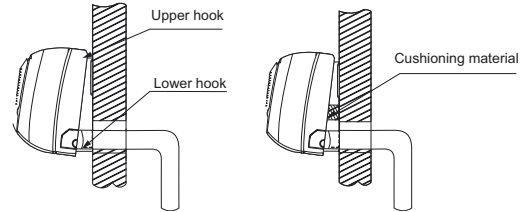

Fig. 10 – Indoor Unit Installation
4. Piping can be connected by lifting indoor unit with a cushioning material between indoor unit and wall. See Fig. 10.